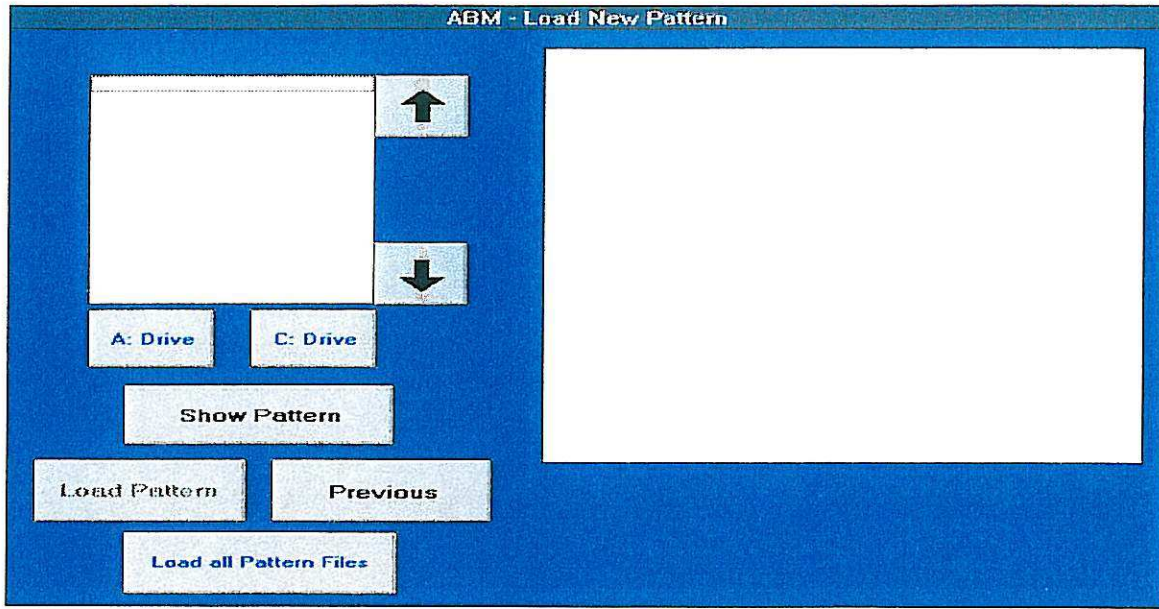

Figure 4.23
- A. Press the "Load pattern from drive" key and a load pattern screen will appear. See Figure 4.23.